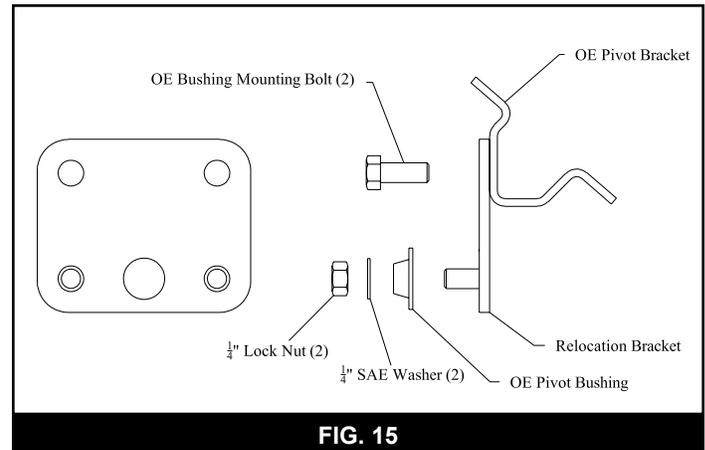

FIG. 15
3. Mount the pivot bushing relocation bracket (01420) to the OE bracket with the original bushing hardware (Fig 15). Torque bolt to 10 ft-lbs.